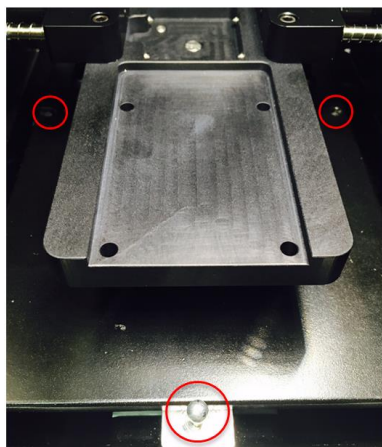

FIGURE 3: Registration pins and front slip-pin
4. Insert the baseplate assembly into the sample compartment of the Evolution using the registration pins at the back, and then push down to secure the plate against the front slip-pin (see Figure 3).